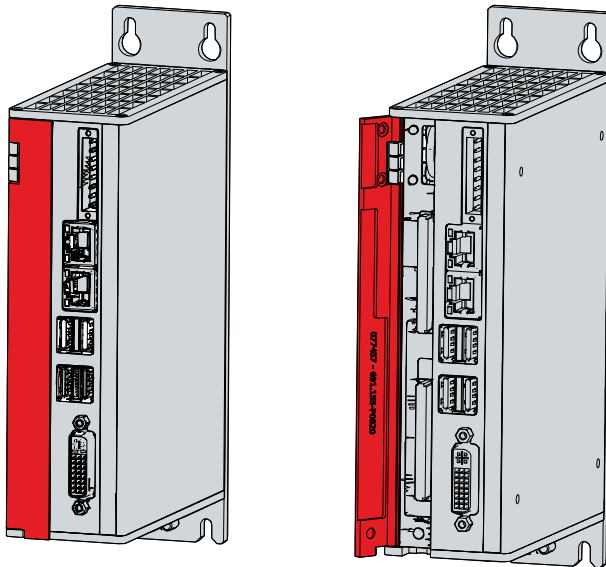

Fig. 19: Tool-free access to battery and storage media
2. Insert the new battery into the PC by hand. Pay attention to the correct polarity. The negative pole of the battery must point towards the voltage socket of the industrial PC (see Fig. 19).